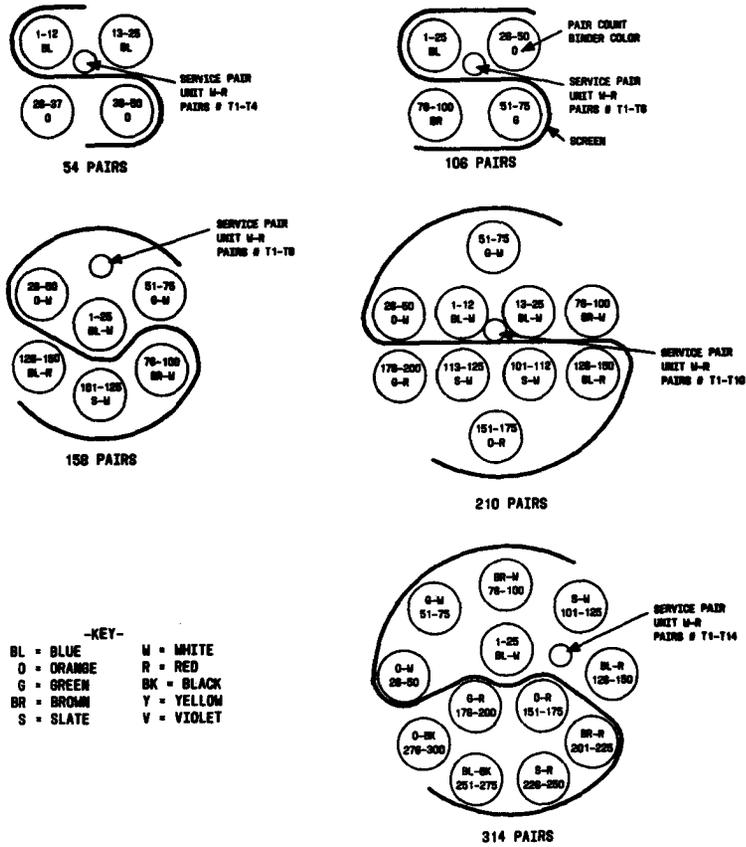

Fig. 13—54- Through 314-Pair ICOT Cable Lay-Ups (MCM and MLM)
4.27 **Core Lay-ups:** The sequence of counting the 25-pair color groups of pairs is indicated by unit binders with the same color sequence as the pairs (blue-white, orange-white, green-white, etc). Figure 13 shows the lay-ups of air core and waterproof ICOT cables in pair sizes 54 through 314 pairs. These sizes of cables are made up of 12-, 13-, and 25-pair units plus the W-R service pair unit. Figure 14 shows the lay-ups of air core and waterproof ICOT cables in pair sizes 418 through 922 pairs. These sizes of cables are made up of 50- or 100-pair multiunits for 418- and 616-pair cable and 75-pair multiunits for 922-pair cable. Each unit has the standard PIC color code for pair identification.